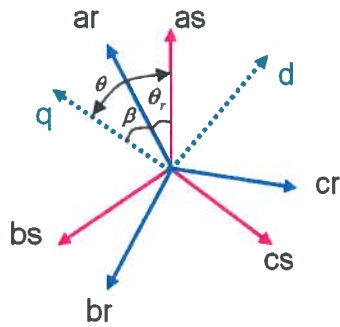

Fig. 2
- (3) Suppose the rotor speed measured on the shaft is 240 rpm. The number of **pole pairs** of this induction machine is 4. Please calculate the value of rotor angular velocity  $\omega_r$ , to be used in this machine model.
- (4) Observed from Fig. 2 that when  $\theta = 90^\circ$ , the d-axis is aligned with stator phase-a axis and the q-axis is leading phase-a axis by 90 degrees. Let's fix this qd-frame at this position (let it become stationary). This makes the d-axis now become the alpha-axis and the q-axis is now the beta-axis. Please give the machine stator and rotor voltage equations expressed in this alfa, beta-reference frame. (Please leave the zero component equations for simplicity.)